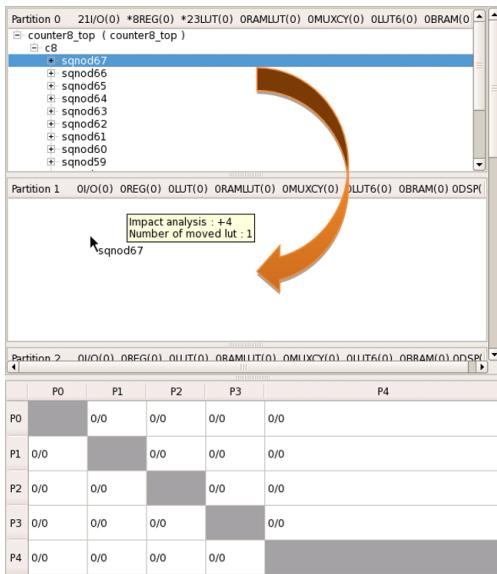

FIGURE 58. Moving Instances in the Partition Pane Using an EDIF File
2. Drag this instance into another partition (Partition 1, see Figure 58).